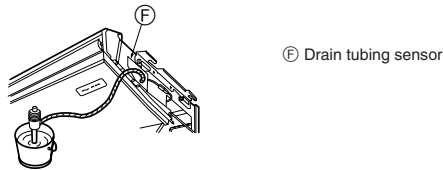

Fig. 5-3
1. Attach the joint socket ⑤ supplied with the unit to the drain port on the unit with a vinyl chloride adhesive.
2. Fasten the socket cover ⑥ supplied with the unit to the joint socket ⑤.
3. Attach the field drain tubing (VP20/O.D. ø26 PVC TUBE) to the joint socket ⑤ with a vinyl chloride adhesive.
4. Wrap the drain tubing cover ⑦ supplied with the unit. (Seam taping)
5. Check for correct drainage. (Fig. 5-3)